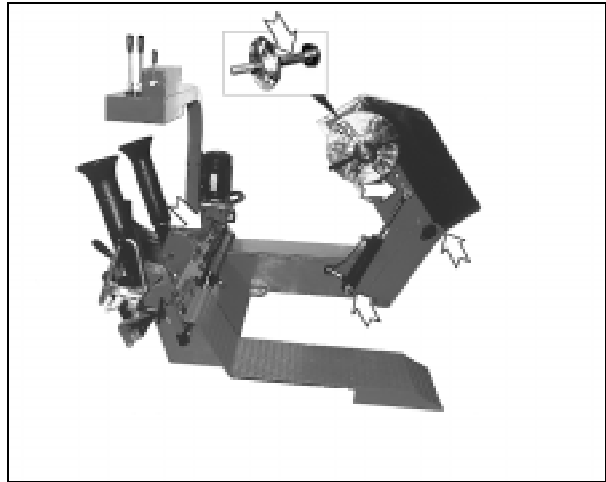

Fig.34
- A. Lubricate all points provided with a greasing nipple once a month (Fig.34). Grease the hexagonal shaft once a month.